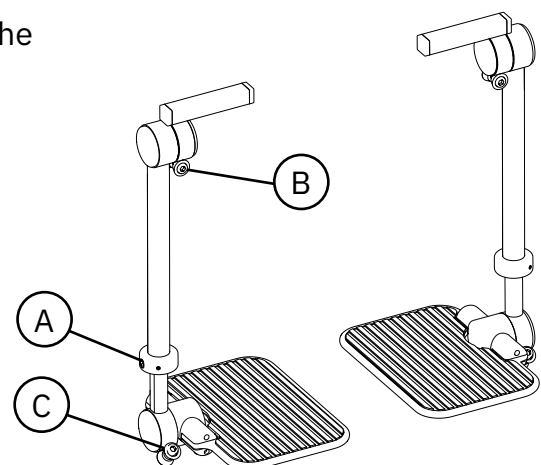

Figure 5.54. Medic leg support.
The Medic leg support is mounted laterally and adjustable in height (A), angle of leg support (B) and angle of footplate (C), see Figure 5.54.